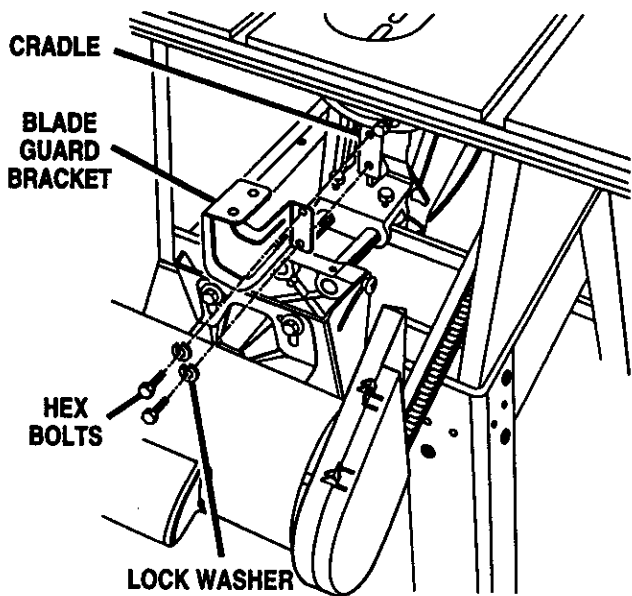

Fig. 25
See Figures 25, 26, and 27.
- Align the lower end of the blade guard bracket and the threaded holes of the cradle and insert the two hex bolts and lock washers. Securely tighten with a 12 mm wrench. See Figure 25.